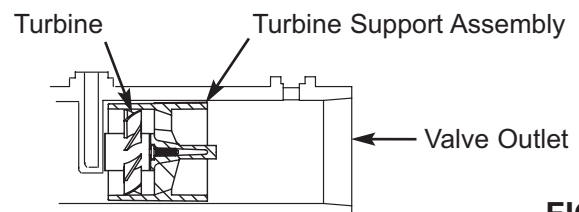

FIG. 8
- Make sure the turbine and support are firmly in place in the valve outlet, as shown in Figure 8. Blow into the valve port and observe the turbine for free rotation.